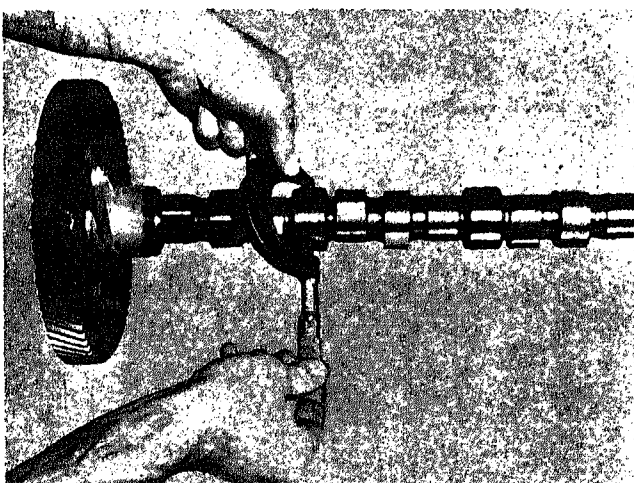

Fig. 1-10-1. Measuring camshaft journals
2. Check camshaft journals with micrometers. Fig. 1-10-1.